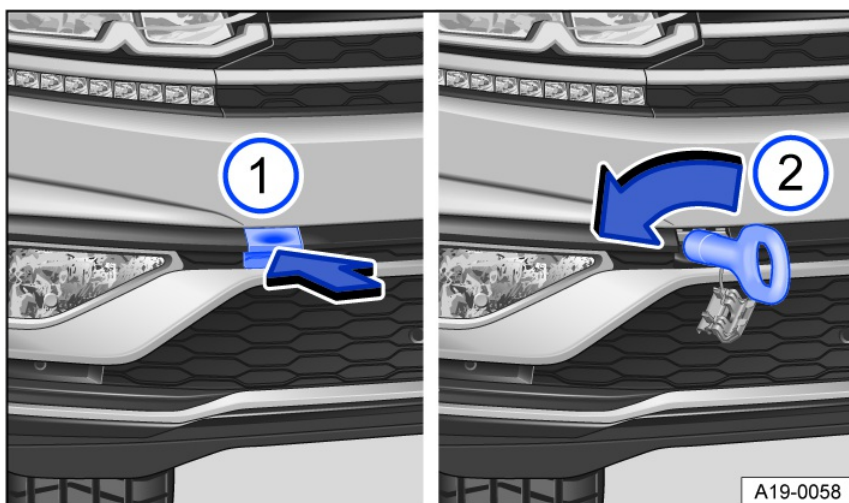

Fig. 181 In the right front bumper: towing eye.
2. Press on the corresponding part of the cover (arrow) to release the lock on the cover *fig. 181* ①.
4. Rotate the towing eye counterclockwise and tighten as far as it will go to install it in the opening *fig. 181* ② ⇒ ①. Use a suitable object to tighten the towing eye completely and securely in the mount.